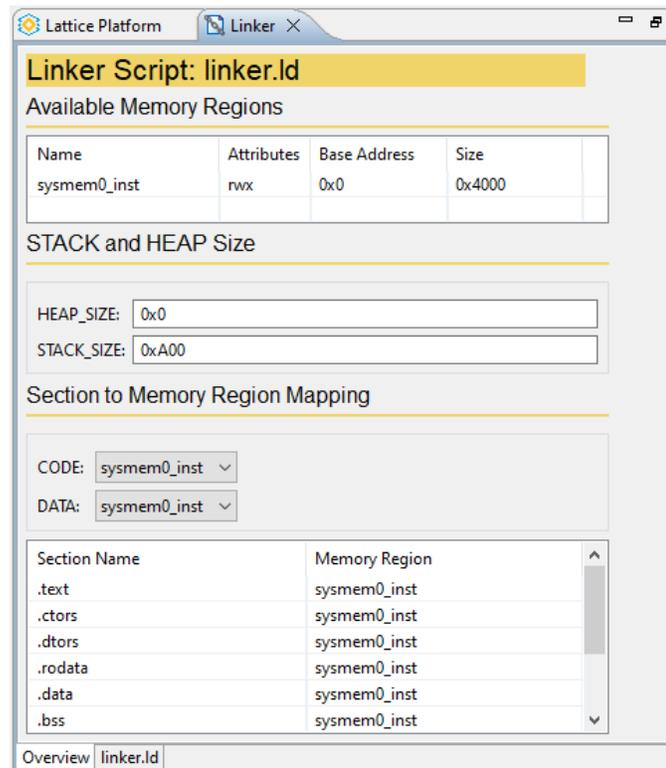

Figure 3.32. Linker Editor
- Linker Editor: An overview of the memory regions of linker script can be displayed. You can modify key linker parameters via the graphical interface (Figure 3.32).